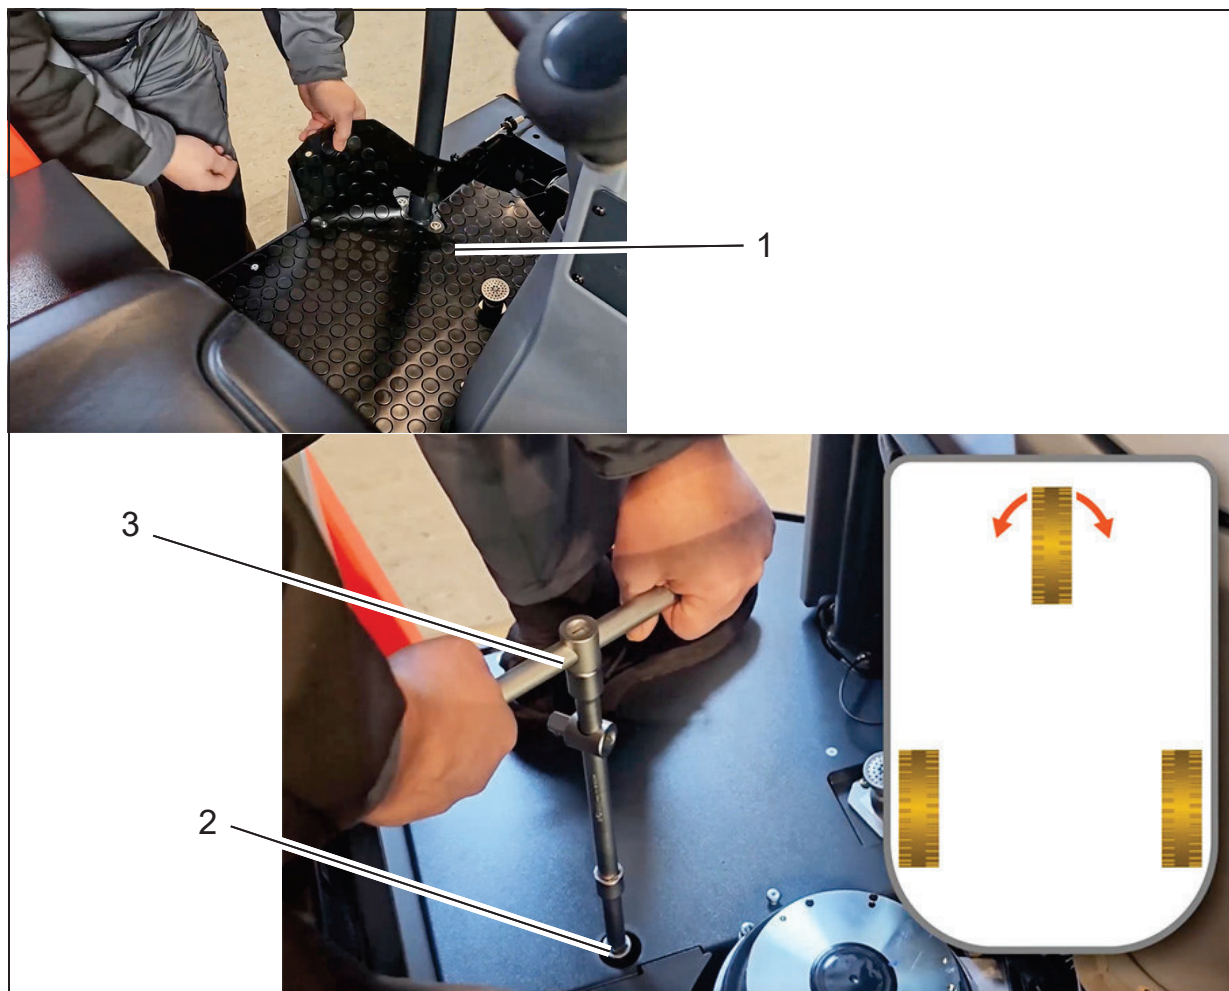

Fig. 6
2. Remove the floor mat on the left-hand side of the machine (Fig. 6/1).
3. Insert the socket spanner through the hole in the base plate onto the drive unit (Fig. 6/2).
4. Steer the machine with the socket spanner (Fig. 6/3).